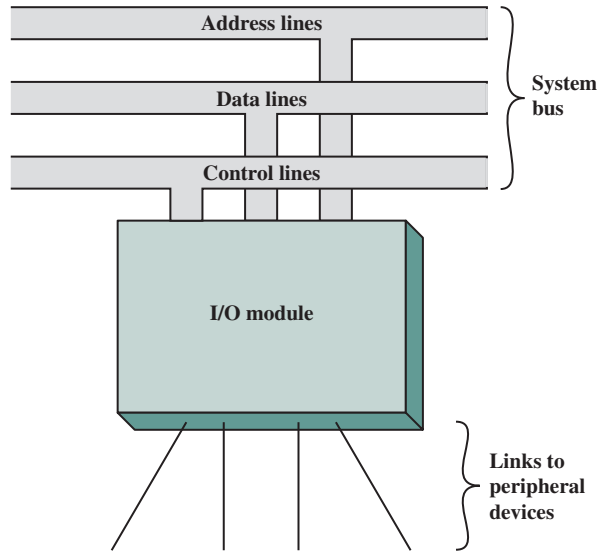

Figure 8.1 Generic Model of an I/O Module
- Thus, an I/O module is required. This module has two major functions (Figure 8.1):
I/O operations are accomplished through a wide assortment of external devices that provide a means of exchanging data between the external environment and the computer. An external device attaches to the computer by a link to an I/O module (Figure 8.1). The link is used to exchange control, status, and data between the I/O module and the external device. An external device connected to an I/O module is often referred to as a *peripheral device* or, simply, a *peripheral*.